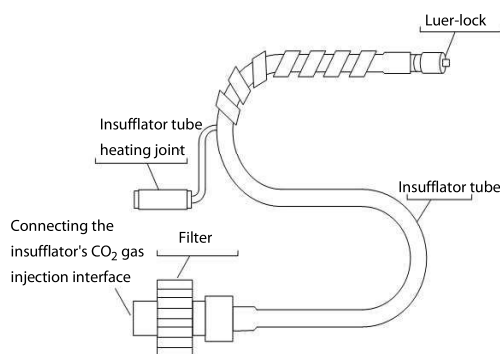

Figure 4-10 Installed heating insufflator pipe fitting (using filter)
2. Please install the filter between the insufflator tube and the insufflator's CO₂ gas injection interface. As shown in Figure 4-10.